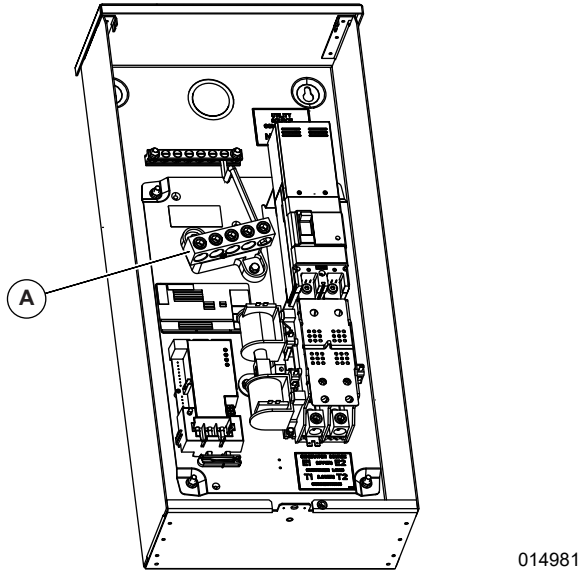

Figure 2. Remove Front Cover (RXSW200A3 Shown as Example)
3. **Figure 2.** Remove front cover and dead front.